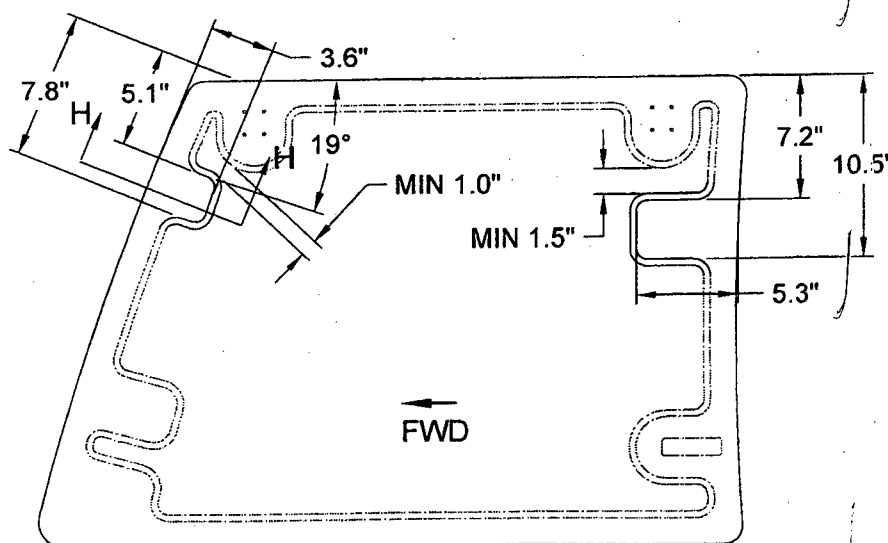

**FIGURE 12 – LATCH HOLE REPAIR IN SPACEPOD™ DOOR**
- 3.4.3 Fill each of the two forward latch holes as shown in Figure 12. (Note that it is optional to fill in only the lower latch hole and to leave the latch in the upper latch hole. If this option is chosen, remove the locking mechanism from the latch. Refer to Figure 11).